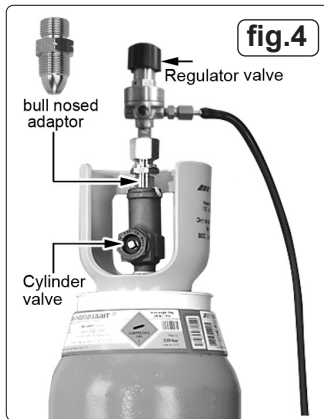

fig.4
4.6.2. **ARGON GAS OR ARGON MIXTURES.** Cylinders containing Argon gas and Argon mixtures have a female thread and will require the use of a Bull Nose Adaptor to attach the regulator to the cylinder as indicated in fig.4. Ensure that the threads on the gas bottle are undamaged and free of oil and grease before attaching the regulator. (Oil or grease in the presence of high pressure gases is explosive). Fit the Bull Nose Adaptor to the cylinder first and tighten with a spanner. Ensure that the regulator has an undamaged gasket before fitting onto the Bull Nose Adaptor. Tighten with a spanner.